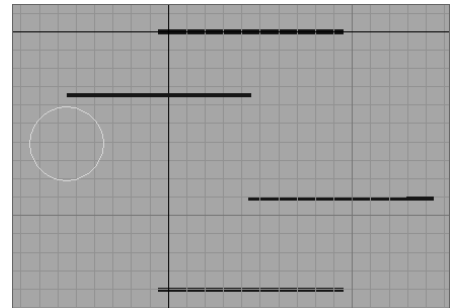

Figure 2.14
- The circle is created with the name Circle01, which is fine, so there is no need to change its name. Use the Move tool to position it under the second bar, lining up its center with the left end of the second bar as shown in Figure 2.14. *Splines*, as with the circle you just created, are not renderable shapes by default. This means they will not render when you output your scene unless you specify otherwise. The circle will be displayed as a wireframe, even when the viewport is in Smooth + Highlights mode (aka Shaded mode; i.e., when objects are shown as solid in the viewport). For more on display modes in viewports, see Chapter 2 and the following brief sidebar.